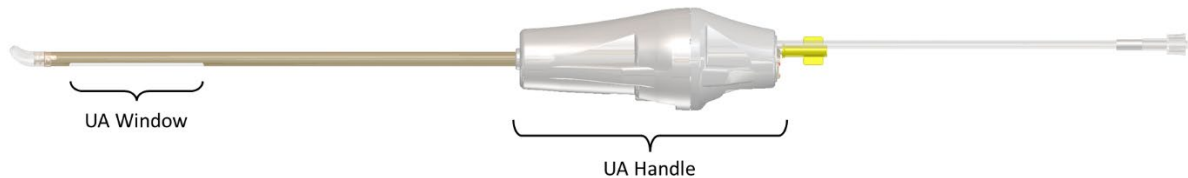

Figure 10: TULSA-PRO® Ultrasound Applicator
*Figure 10* shows the ultrasound-beam temperature profile in tissue produced by a UA in the direction of heating. The highest temperatures are located near the UA. Maximum temperatures are maintained below 100°C to avoid tissue carbonization and boiling, which should be avoided during ultrasound therapy.